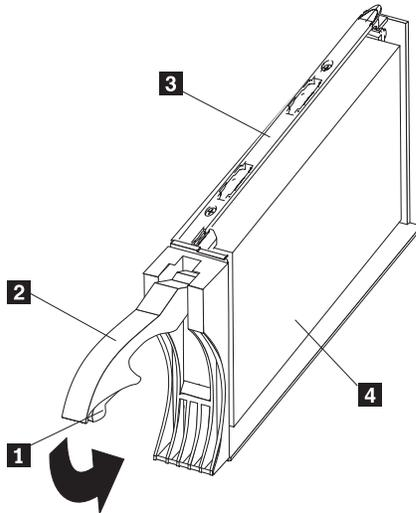

Figure 59. Releasing the drive latch
Note: The hard disk drive comes with a tray already attached. Do not attempt to detach the drive **4** from the tray **3**. See Figure 59 on page 74.
- a. Release the blue latch **1** on the drive CRU by pressing on the inside of the bottom of the tray handle. See Figure 59.